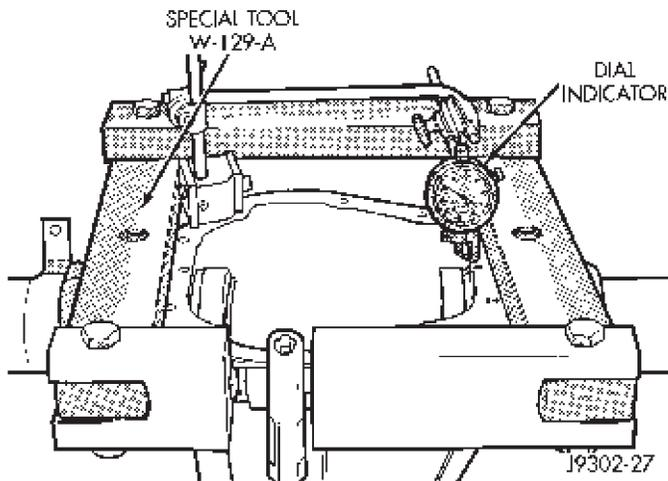

Fig. 37 Spread Differential Housing
- (1) Position Spreader W-129-A with the tool dowel pins seated in the locating holes (Fig. 37). Install the holddown clamps and tighten the tool turnbuckle finger-tight.
- (2) Install a pilot stud at the left side of the differential housing. Attach Dial Indicator to housing pilot stud. Load the indicator plunger against the opposite side of the housing (Fig. 37) and zero the indicator.
- (3) Separate the housing enough to install the case in the housing. Measure the distance with the dial indicator (Fig. 37).